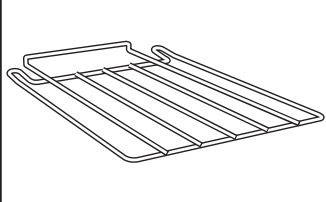

Fig. 2.21
- 1 plate warming shelf (**Fig. 2.21**)